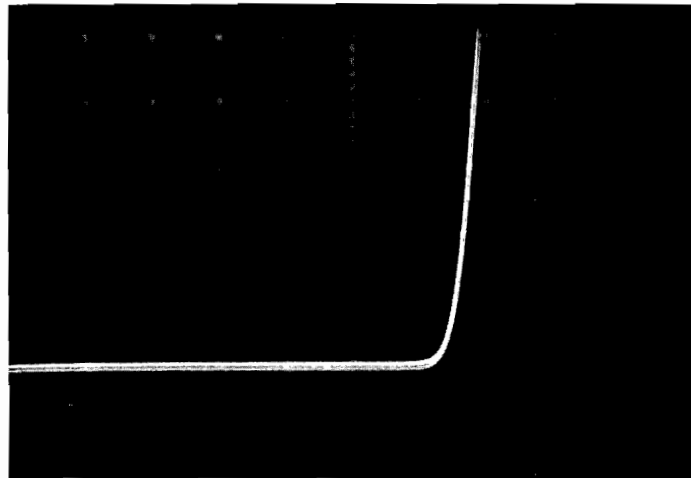

FIGURE 1-3
6. After the oscilloscope has warmed up, center the trace dot at the center of the scope's screen. Adjust the sine wave frequency of the signal generator to approximately 100 Hz, and vary the generator's output level so that you observe the characteristic diode curve similar to the one plotted in Step 4. The oscilloscope display should be similar to that shown in Figure 1-3. If it is not, the leads of the oscilloscope may be interchanged or there may be wiring error.